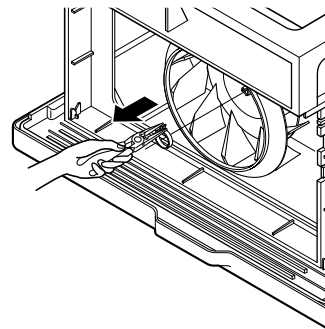

FIG. 6
8. Remove the clamp which secures the turbo fan with plier. (See Fig. 6)